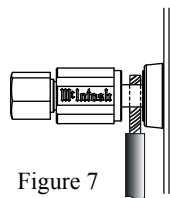

Figure 7
8. Connect the Loudspeaker hookup cables to the MC302 COM (Negative) Output Terminal and Positive Output Terminal identified as 2Ω (ohms), 4Ω (ohms) or 8Ω (ohms) connection to match the impedance of the Loudspeaker, being careful to observe the correct polarities. Insert the spade lug connector or prepared section of the cable end into the terminal side access hole, and tighten the terminal cap until the cable is firmly clamped into the terminals so the lugs or wire cannot slip out. Refer to figures 7 and 8.
observe the correct polarities. Insert the spade lug connector or prepared section of the cable end into the terminal side access hole, and tighten the terminal cap until the cable is firmly clamped into the terminals so the lugs or wire cannot slip out. Refer to figures 7 and 8.